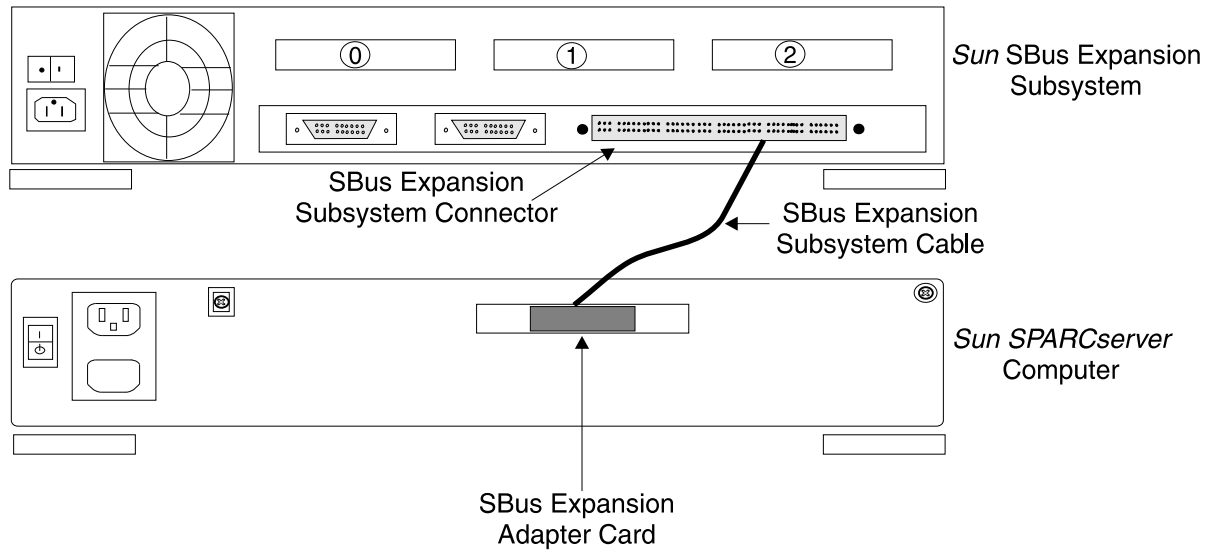

Figure D-24: SBus Expansion Subsystem Connected to a *Sun SPARCserver* Computer
3. Attach the other end of the SBus expansion subsystem cable to the SBus expansion connector (labeled SBus EXP) on the rear of the SBus expansion subsystem (see Figure D-24).